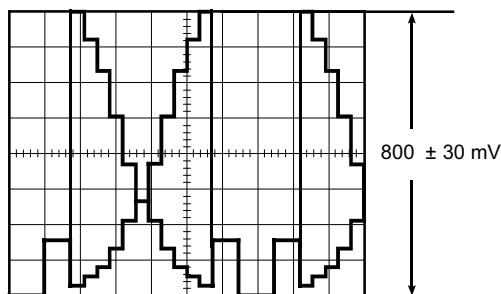

Fig. 4-10
- Adjust data with the **ARROW** keys so that the AD/IN signal level becomes 800 ± 30 mV as shown in Fig. 4-10.